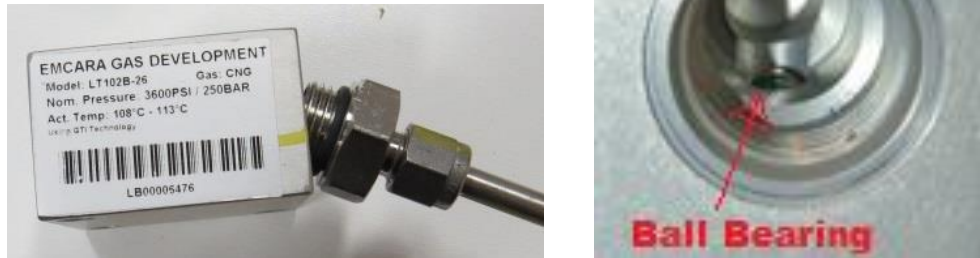

Figure 11 Left: Hold the PRD “label up” to trap the ball bearing in its bore. Right: Insert the ball bearing into the bore.
14. Inspect the new PRD body for contaminants or damage. Make sure the ball bearing is in place as shown in Figure 11.